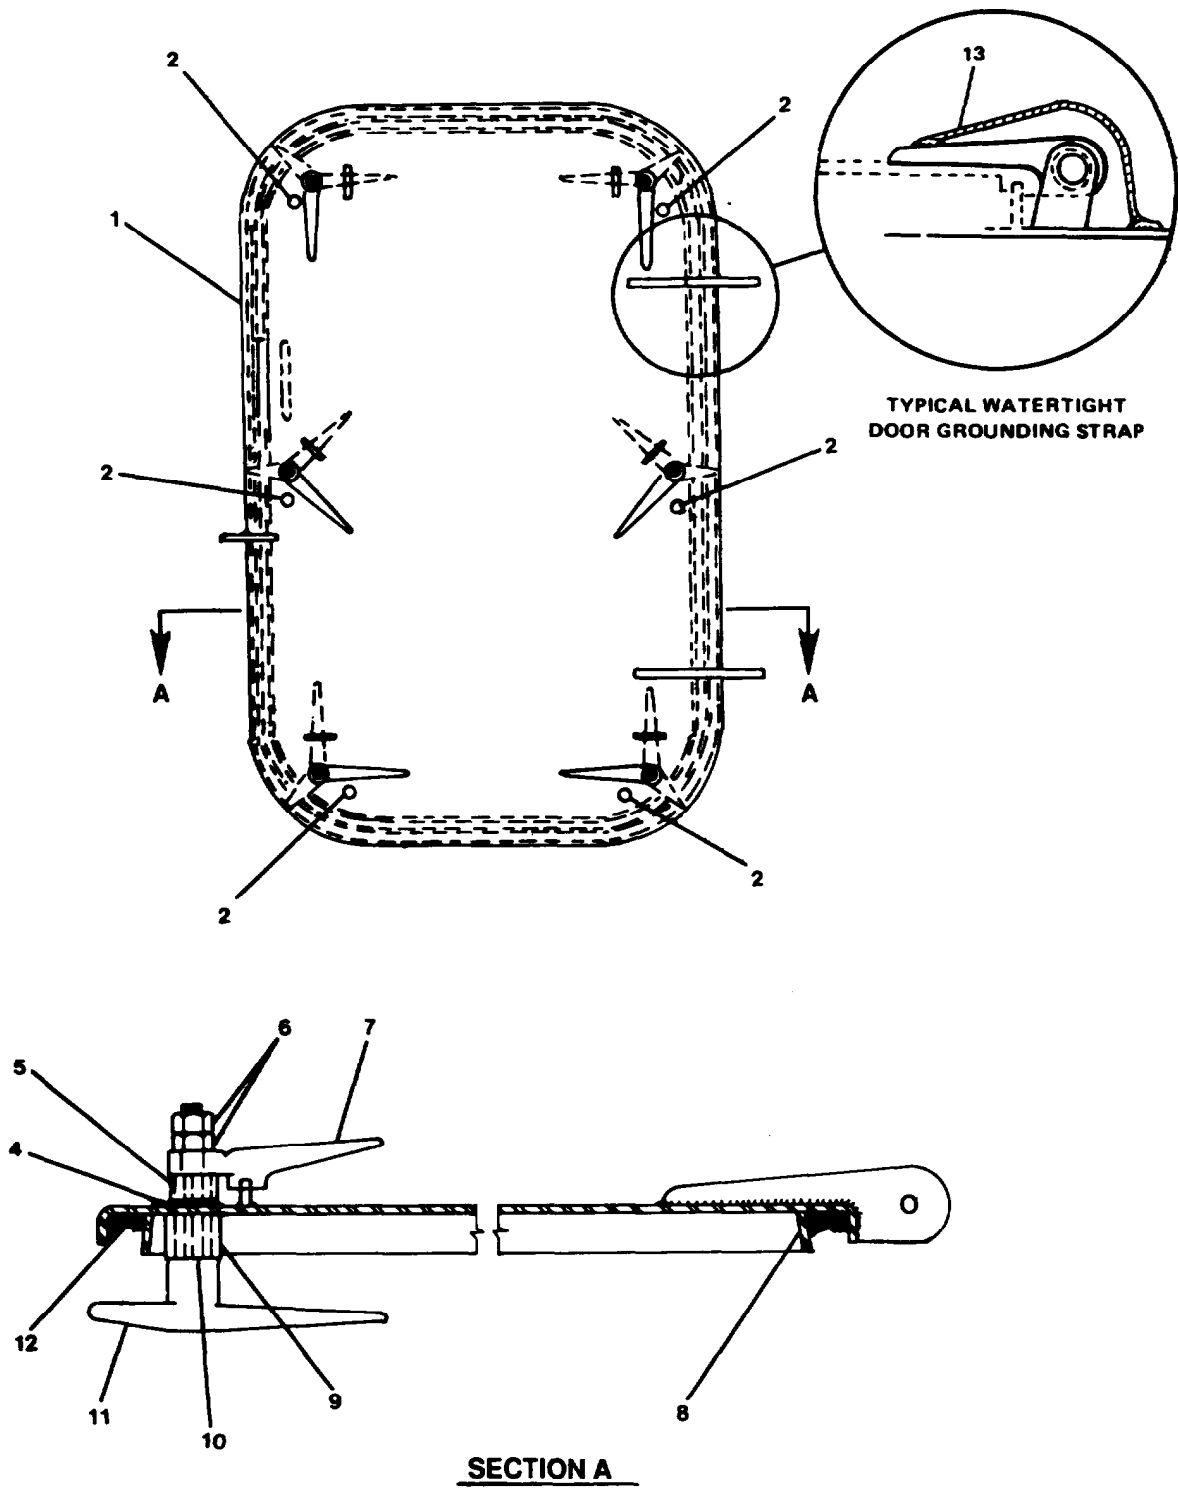

FIGURE 2-175. Repair Watertight Door, Six Dogs (30 x 60).
- a. Remove hex nuts (6, FIGURE 2-175) and handles (7) from door (1).
- b. Remove bronze bushing (5) and preformed packing (4) from door.
- c. Remove dog door closer (11) from door.
- a. Install flanged plate (3, FIGURE 2-175) and stops (2) on door (1).